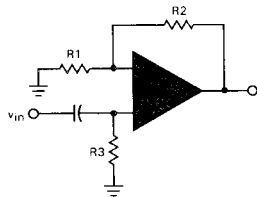

Fig. 5. AC Amplifier
- (c) Never forget the need for a dc current path to the op amp inputs. If the op amp is used in an ac amplifier as shown in *Figure 5*, notice that  $R_3$  is required to provide a dc current path to the non-inverting input. Without  $R_3$ , the circuit just doesn't work!  $R_3$  is also necessary if the source can't supply the bias current.